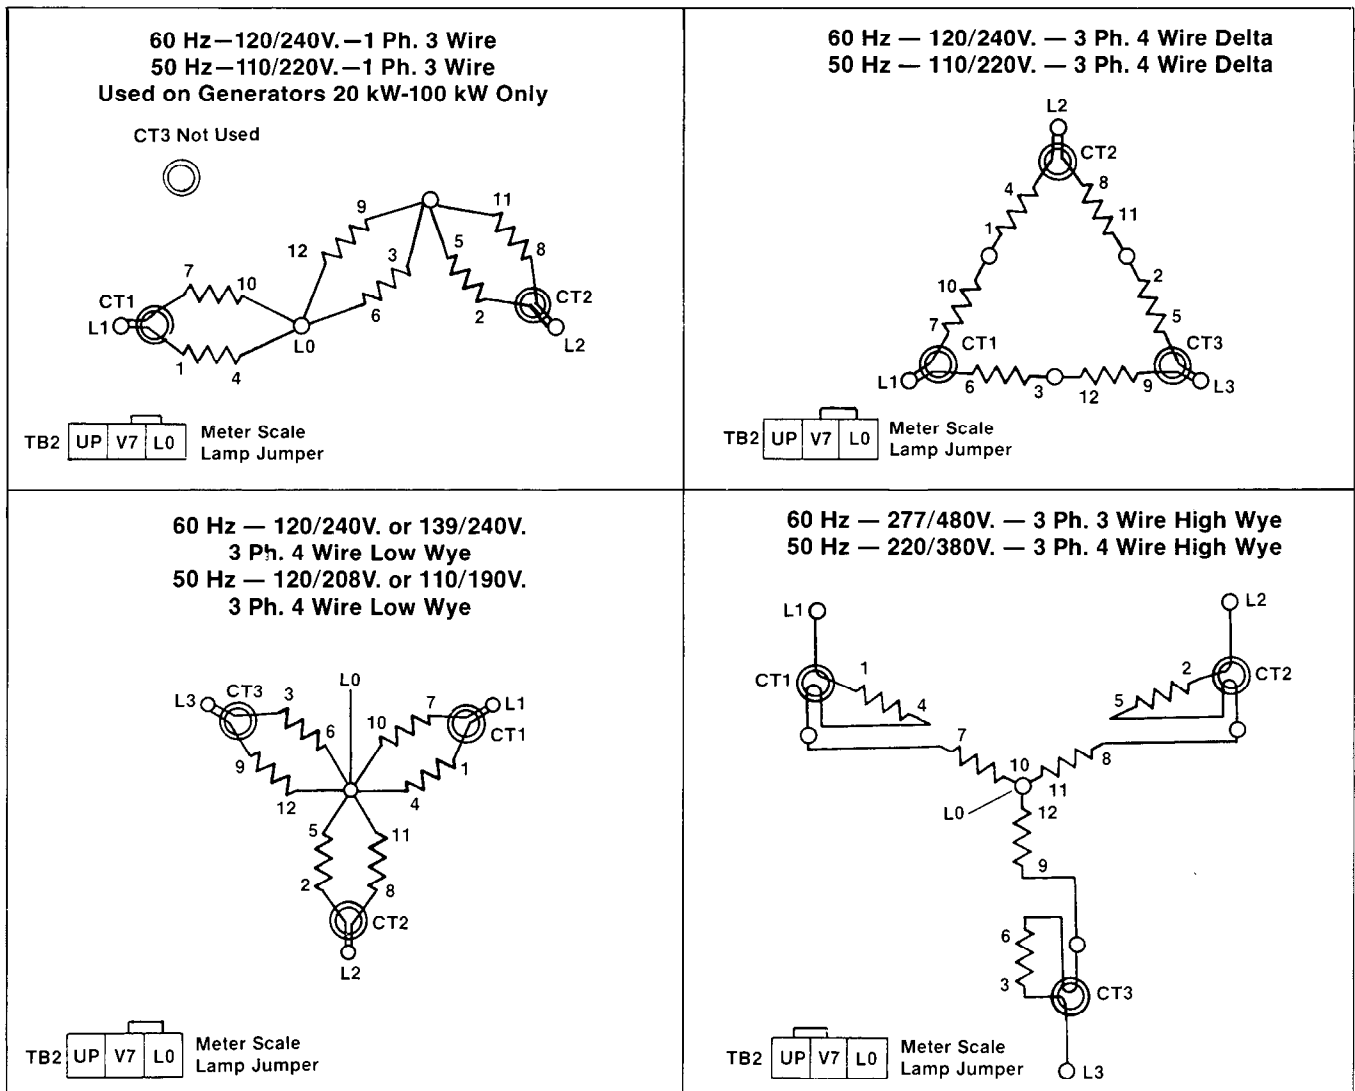

Figure 5-1. Generator Reconnections
3. Select desired voltage connection from Figure 5-1. Route leads through current transformers and connect according to the diagram for desired phase and voltage.
4. If controller is equipped with meters, remove controller cover and reposition meter scale lamp jumper (see Figure 5-2), if necessary, to match proper position for desired voltage (shown in Figure 5-1). Replace cover.